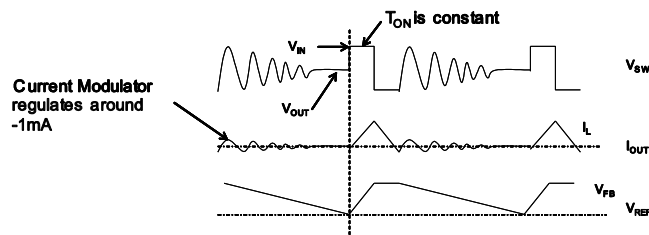

Figure 3—DCM operation
DCM operation is shown in Figure 3. When  $V_{FB}$  is below  $V_{REF}$ , the HS-FET is turned on for a fixed interval, which is determined by the one-shot on timer. See Equation (1). When the HS-FET is turned off, the LS-FET is turned on until the inductor current reaches zero. In DCM operation,  $V_{FB}$  does not reach  $V_{REF}$  when the inductor current approaches zero. The LS-FET driver turns into tri-state (high Z) when the inductor current reaches zero. A current modulator takes over the control of the LS-FET and limits the inductor current to less than -1 mA. Hence, the output capacitors discharge slowly to GND through the LS-FET. As a result, the efficiency at light-load is improved greatly. The HS-FET is not turned on as frequently during a light-load condition as it is during a heavy-load condition (skip mode).